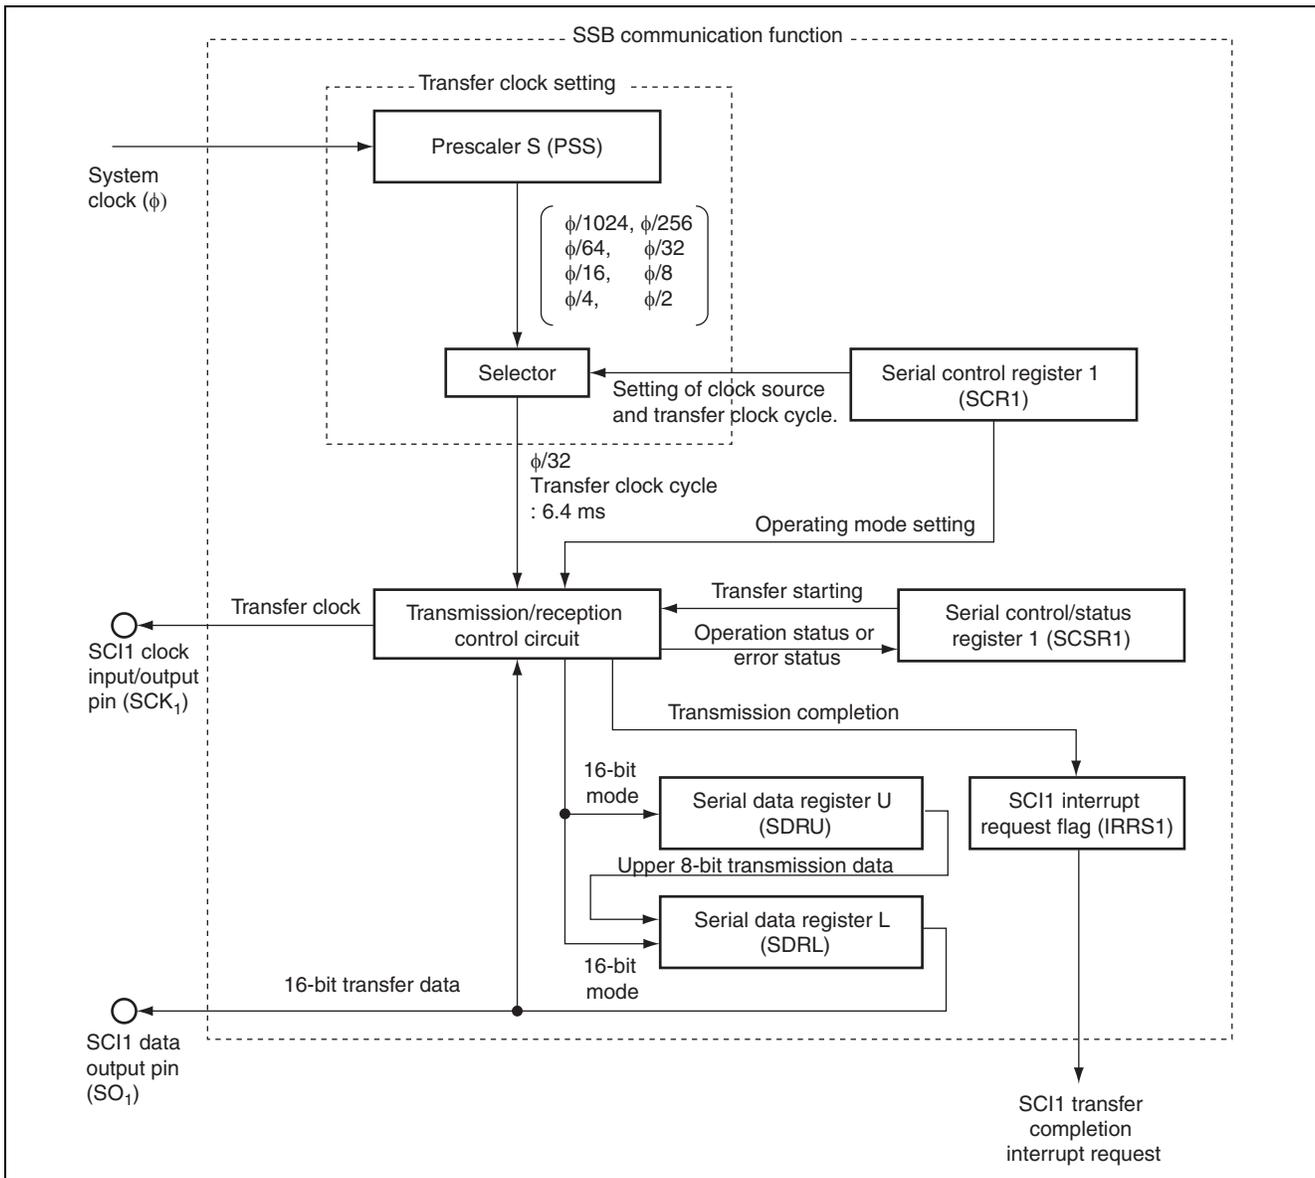

Figure 2.1 Block Diagram of SSB Communication Function
- In this sample task, SSB communication is performed via the serial communication interface (SCI). Figure 2.1 shows a block diagram of the SSB communication, and the following is the description for the block diagram: